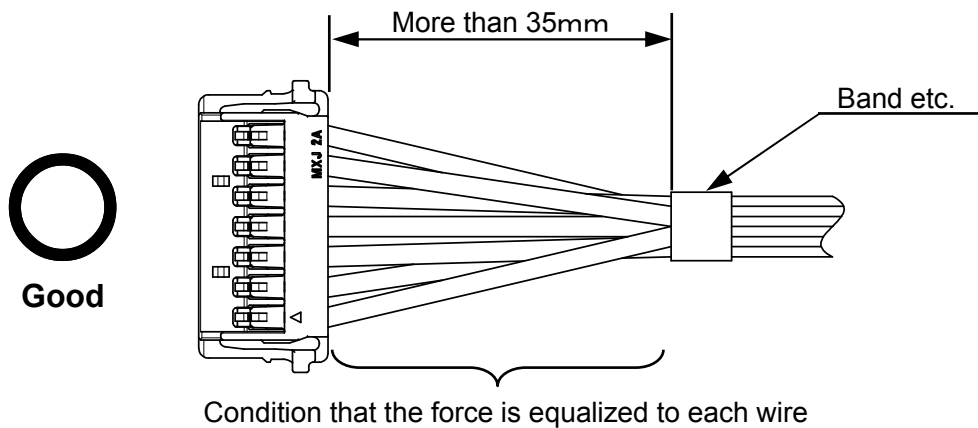

Fig.7-1 Condition that harness is banding properly
- ① Please band the wires at more than 35mm length from connector and equalize the force to each wires (**Fig.7-1**)